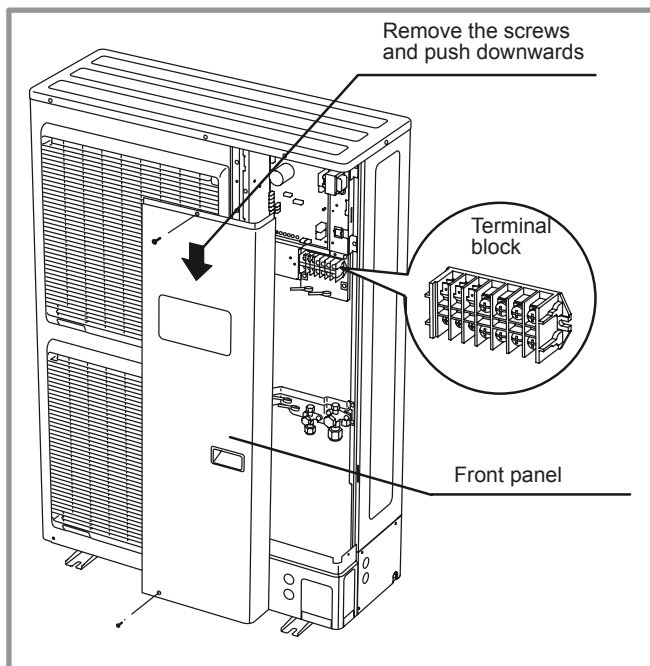

figure 37 - Access to 3-phase outdoor unit's terminal block
- Make the connections in accordance with the diagram figure 37, page 26.